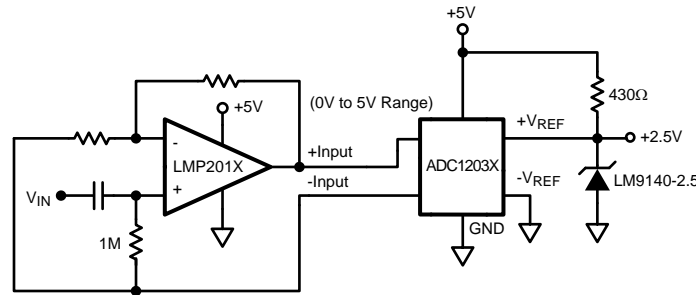
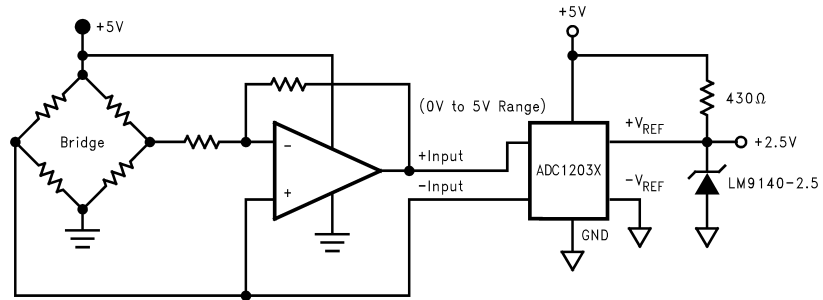

Figure 37. AC Coupled ADC Driver
Figure 38. DC Coupled ADC Driver
The LMP201X is a great choice for an amplifier stage immediately before the input of an ADC (Analog-to-Digital Converter), whether AC or DC coupled. See Figure 37 and Figure 38. This is because of the following important characteristics:
- E)** Rail-to-Rail output swing maximizes the ADC dynamic range in 5-Volt single-supply converter applications. Below are some typical block diagrams showing the LMP201X used as an ADC amplifier (Figure 37 and Figure 38).